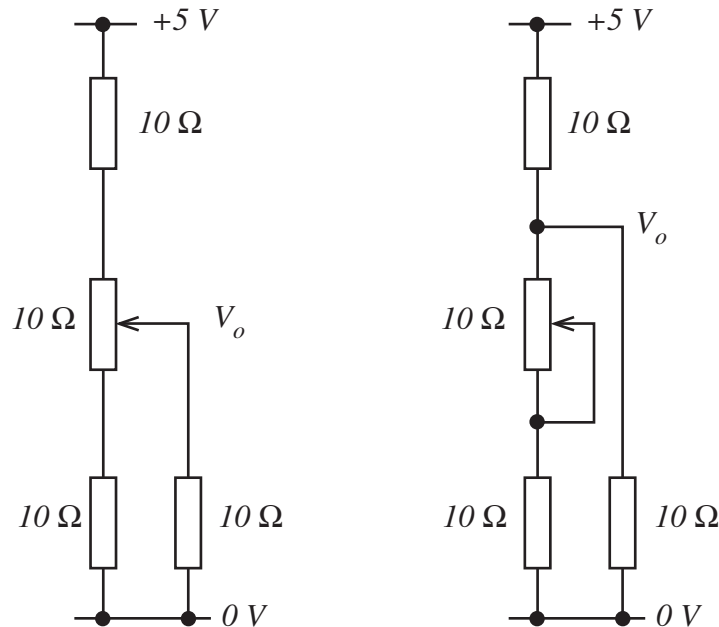

FIG. 15
4. In FIGURE 15 what is the range of output voltage controlled by the two potentiometers/variable resistors? What should the rating of the potentiometer/variable resistor be in each case?